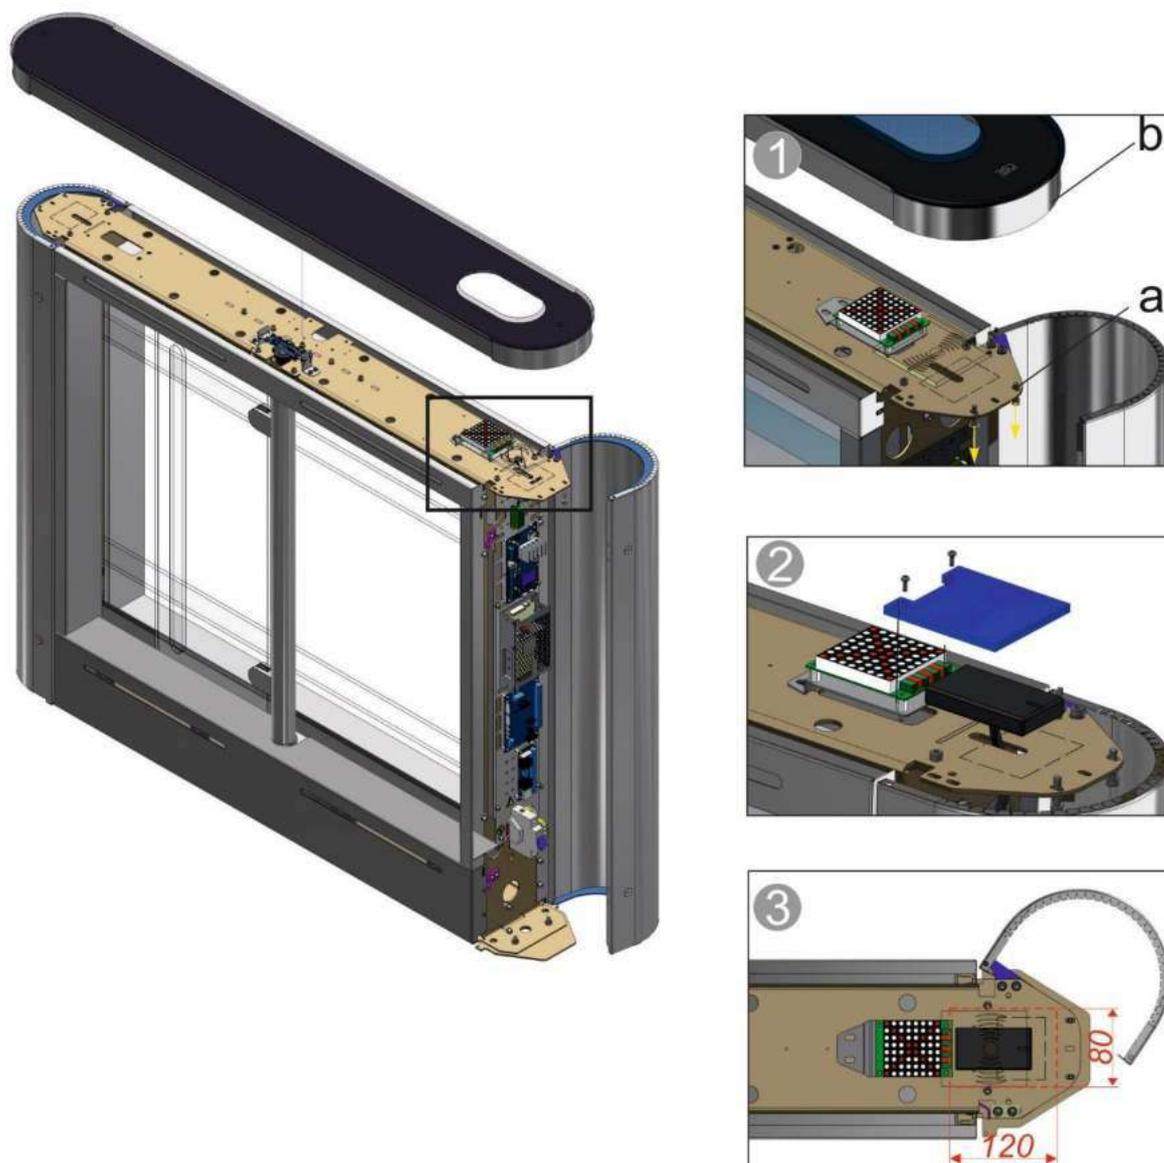

Fig.26 – Installation of card reader into the turnstile cabinet
- The turnstile lid *b* (or glass top) to be removed by unscrewing screws *a* from frame (*Fig.26*);